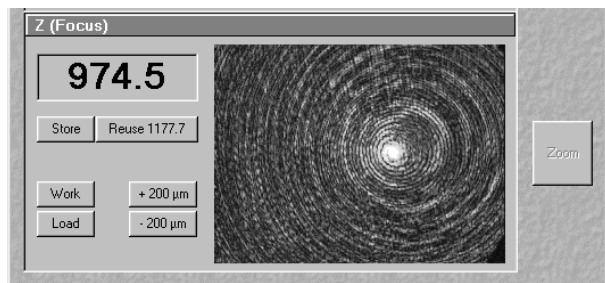

Fig. 3-35 Camera image near the lower cover slip surface
- If the focus position approaches the lower cover slip surface, the camera window looks similar to (Fig. 3-35).